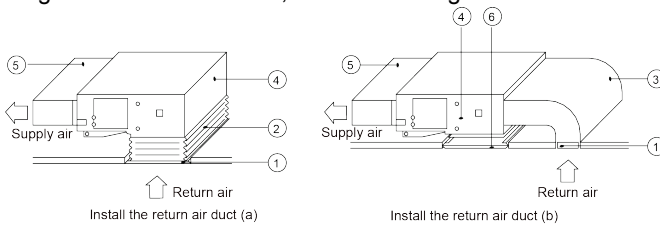

Fig. 4.36
- (3). If the bottom return air is desired, just change the place of the rectangular flange and the return air cover plate.
- (4). Connect one end of the return air duct to the return air outlet of the unit by rivets and the other to the return air louver. For the sake of the convenience to freely adjust the height, a cutting of canvas duct will be helpful, which can be reinforced and folded by 8# iron wire.
- (5). More noise is likely to be produced in the bottom return air mode than the backward return air mode, so it is suggested to install a silencer and a static pressure box to minimize the noise.
- (6). The installation method can be chosen with considering the conditions of the building and maintenance etc, as shown in Fig. 4.36.